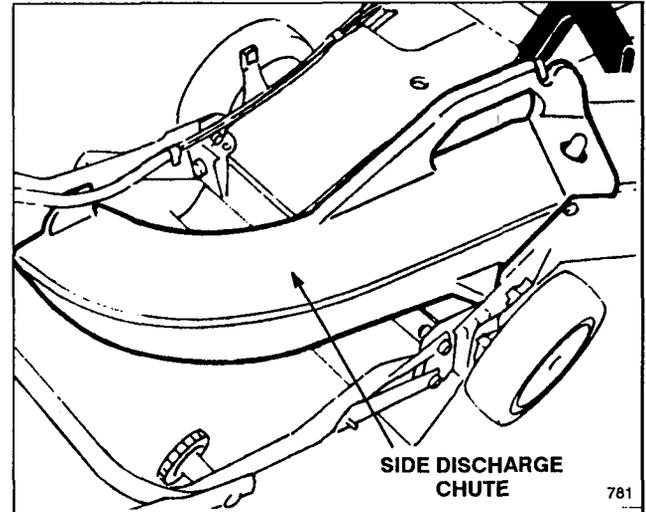

Figure 31
**2. Side Discharge Kit, Model 59168**—(requires Rear Bagging Kit, Model 59174). Installs in seconds. Rear mounted in place of grass bag or discharge tunnel plug. Disperses clippings while trimming on both sides (Fig. 31).